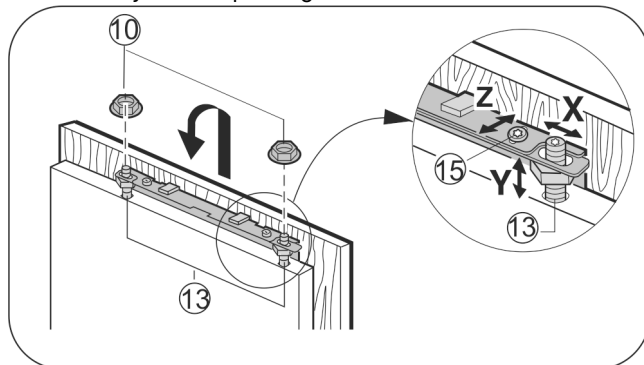

Fig. 23
- Attach the unit door on the adjusting bolts Fig. 23 (13) and loosely screw locknuts Fig. 23 (10) onto the adjusting bolts.
- To align the unit door in the Y direction (height) and in lateral inclination: Adjust the adjusting bolts Fig. 23 (13) with a screwdriver.
- Tighten the locknuts Fig. 23 (10).